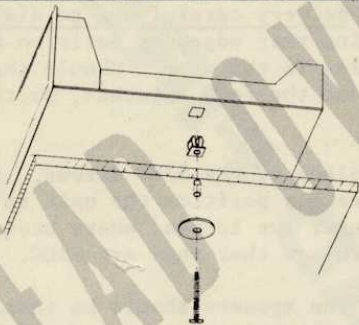

FIGURE 4
(3) WOODEN CASE: Using ZP-16 hardware, snap the plastic inserts into the square holes near each edge of the bottom cover. Follow the instructions in (1) above and install the spacers as in (2). Install the drive screws and washers through the case and into the inserts. SEE FIGURE 4 AND 5. Screw in snugly. Do not overtighten.
(4) METAL CASE: Use ZP-12 hardware and follow the instructions in (1) and (2).
(5) Remove the rubber feet attached to the unit. Using ZP-17 hardware (see note below for 314 and LC-21), snap the plastic inserts into the square holes near each edge of the bottom cover. Place the set into position and install the drive screws and washers through the mounting shelf and into the inserts. SEE FIGURE 4. Screw in snugly. Do not overtighten.